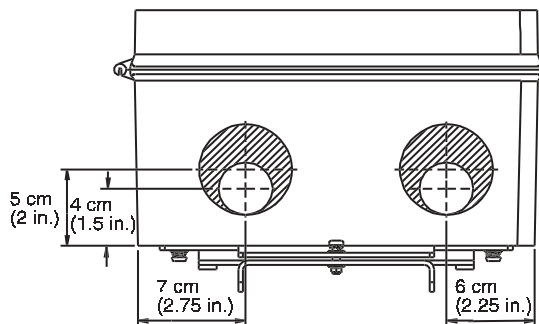

Figure 3
7.1 Determine the size hole needed based on the fitting being used. Measure and mark the location of the hole centers, based on dimensions in Figure 3, on the bottom of the unit. The 2-inch conduit holes are represented by the larger circles and the 1-inch conduit holes by the smaller circles.